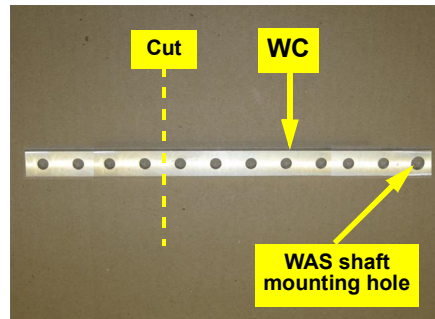

Figure 1b: Attached WAS arm
- b. Cut four holes off the WAS arm **WC** at the opposite end from the WAS shaft mounting hole (Figure 1b).